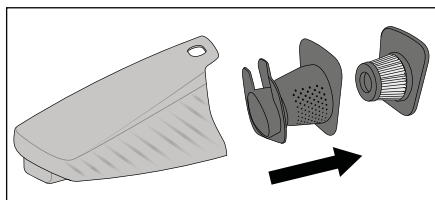

Fig. 4
- 3) Start by pulling the HEPA filter **5** and then the coarse filter **6** out of the dirt container **7** (Fig. 4). Tap out both parts over a rubbish bin or similar. If necessary, you can rinse out the HEPA filter **5** with fresh water. Allow it to air dry fully afterwards.